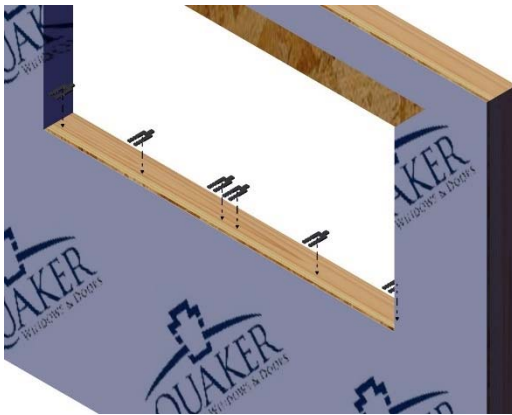

Fig. 2
- A. Shim and level the sill as needed. (Fig. 2 & 3)